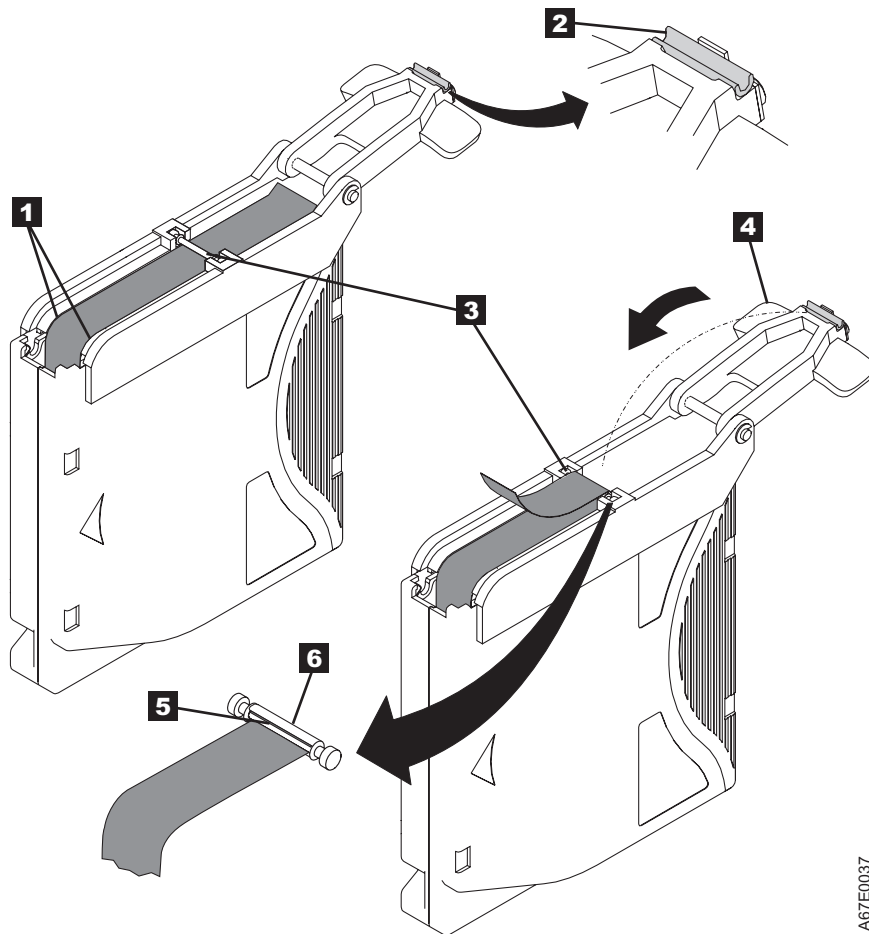

Figure 4-15. Attaching the leader pin to the tape
7. Position the tape in the alignment groove of the leader pin attach tool (see **1** in Figure 4-15 on page 4-16).
8. Place a new C-clip into the retention groove ( **2** (Figure 4-15 on page 4-16) on the leader pin attachment tool and make sure that the clip's open side faces up.
9. Place the leader pin (from step 6) into the cavity ( **3** (Figure 4-15 on page 4-16) of the leader pin attach tool.
10. Fold the tape over the leader pin and hold it with your fingers (see Figure 4-15 on page 4-16).